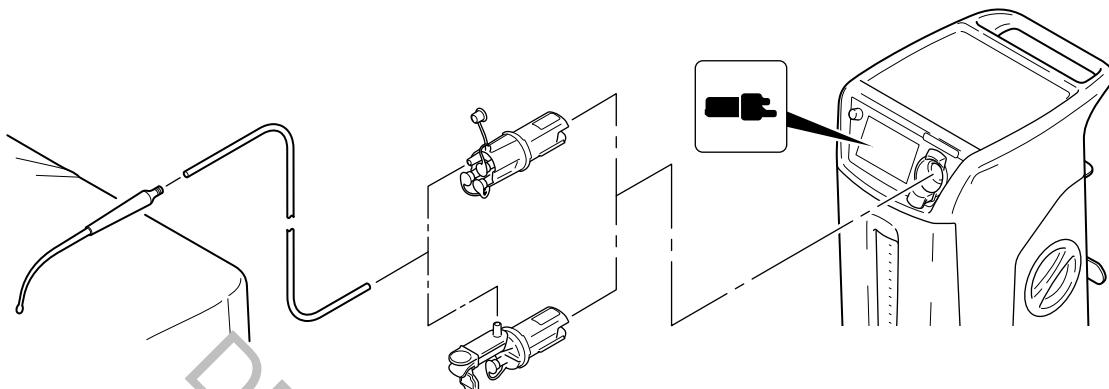

Figure 22 – To Install a Manifold
2. Align the manifold tabs and insert the manifold into the manifold receptacle. Push the manifold straight into the receptacle until a click is heard (Figure 22). Confirm the new manifold symbol (white) appears on the main control panel display and a confirmation sound occurs.